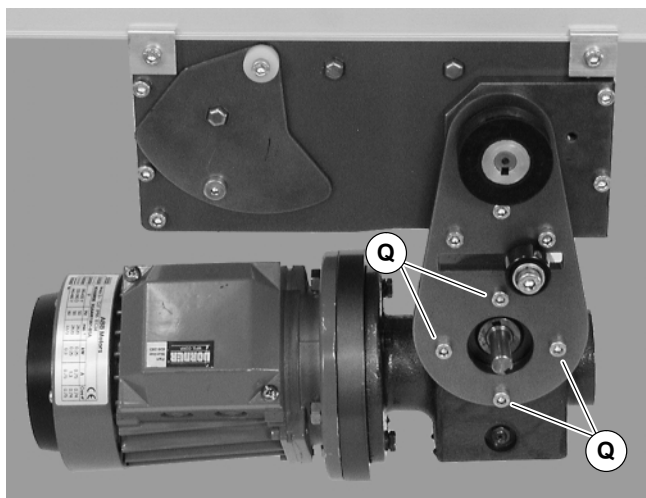

Figure 15
4. Remove four (4) gear reducer mounting screws (Q of Figure 15). Remove gearmotor.
12. Install gearmotor to mounting bracket and tighten screws (Q of Figure 15) to 12 Nm.